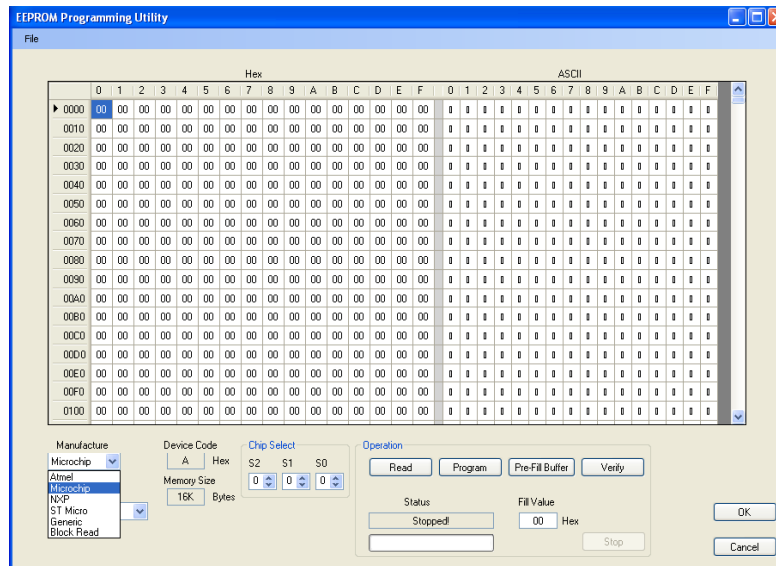

Figure 6. EEPROM Programming Utility window
3. Verify that the EEPROM Programming Utility window is now displayed (See Figure 6)